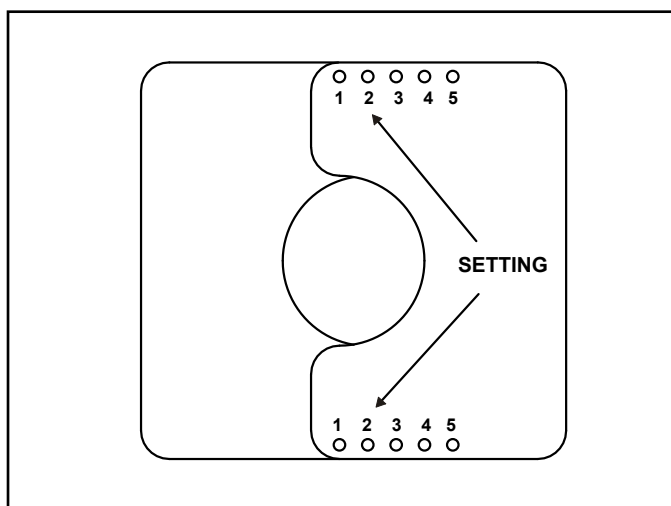

Figure 4.17 Set the Exhaust Restrictor
3. The setting for CRAVE4836-C, CRAVE6048-C, CRAVE7260-C and CRAVE8472-C is a 2.5 inch setting, or 2-2. Align the holes marked "2" on the numbered exhaust restrictor piece with the hole on the other exhaust restrictor piece. See Figure 4.17. Align the exhaust restrictor pieces with the pilot holes in the inner firebox chamber. Use two 1/2 inch self-piercing screws to secure vent restrictor to firebox heat shield.
2. The setting for CRAVE4836ST-C, CRAVE6048ST-C, CRAVE7260ST-C, and CRAVE8472ST-C is a 2.5 inch setting, or 2-2. Align the holes marked "2" on the numbered exhaust restrictor piece with the hole on the other exhaust restrictor piece. See Figure 4.17. Center the exhaust restrictor on the vent and secure in place with two 1/2 inch self-piercing screws.